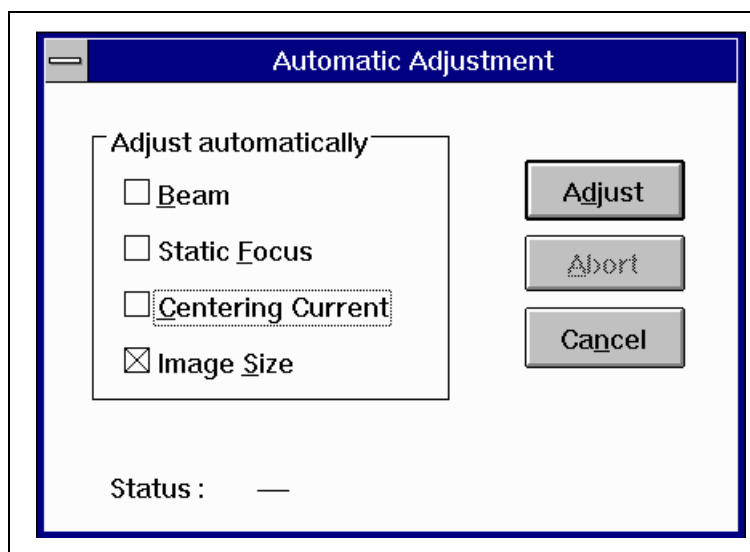

Fig. 5
- Call <Adjustment> <Auto Adjustment>. Select only "Image Size" in the window, as shown in Fig.5. The other three possibilities are not selected.